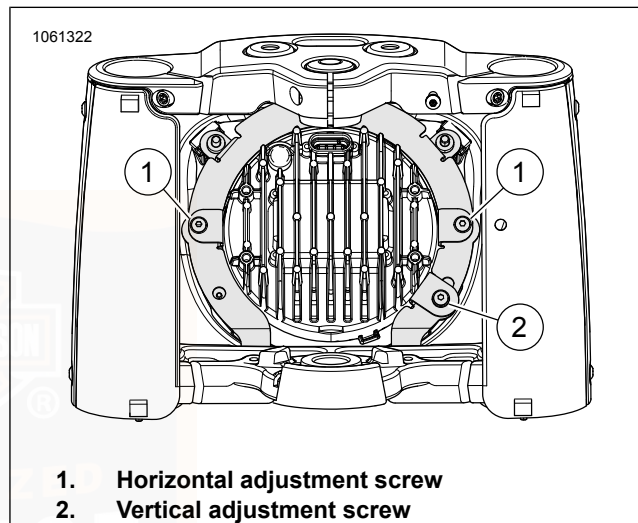

Figure 84. Headlamp Adjustment
1. See Figure 84. Rotate horizontal adjustment screw (1). Adjust headlamp horizontally to direct light beam straight ahead.
2. Rotate vertical adjustment screw (2). Adjust headlamp vertically until beam centers on horizontal line.